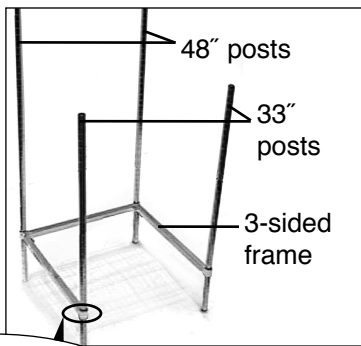

Figure 1a
- Assemble plastic split sleeves onto 2" mark on all posts (see Figure 1a).